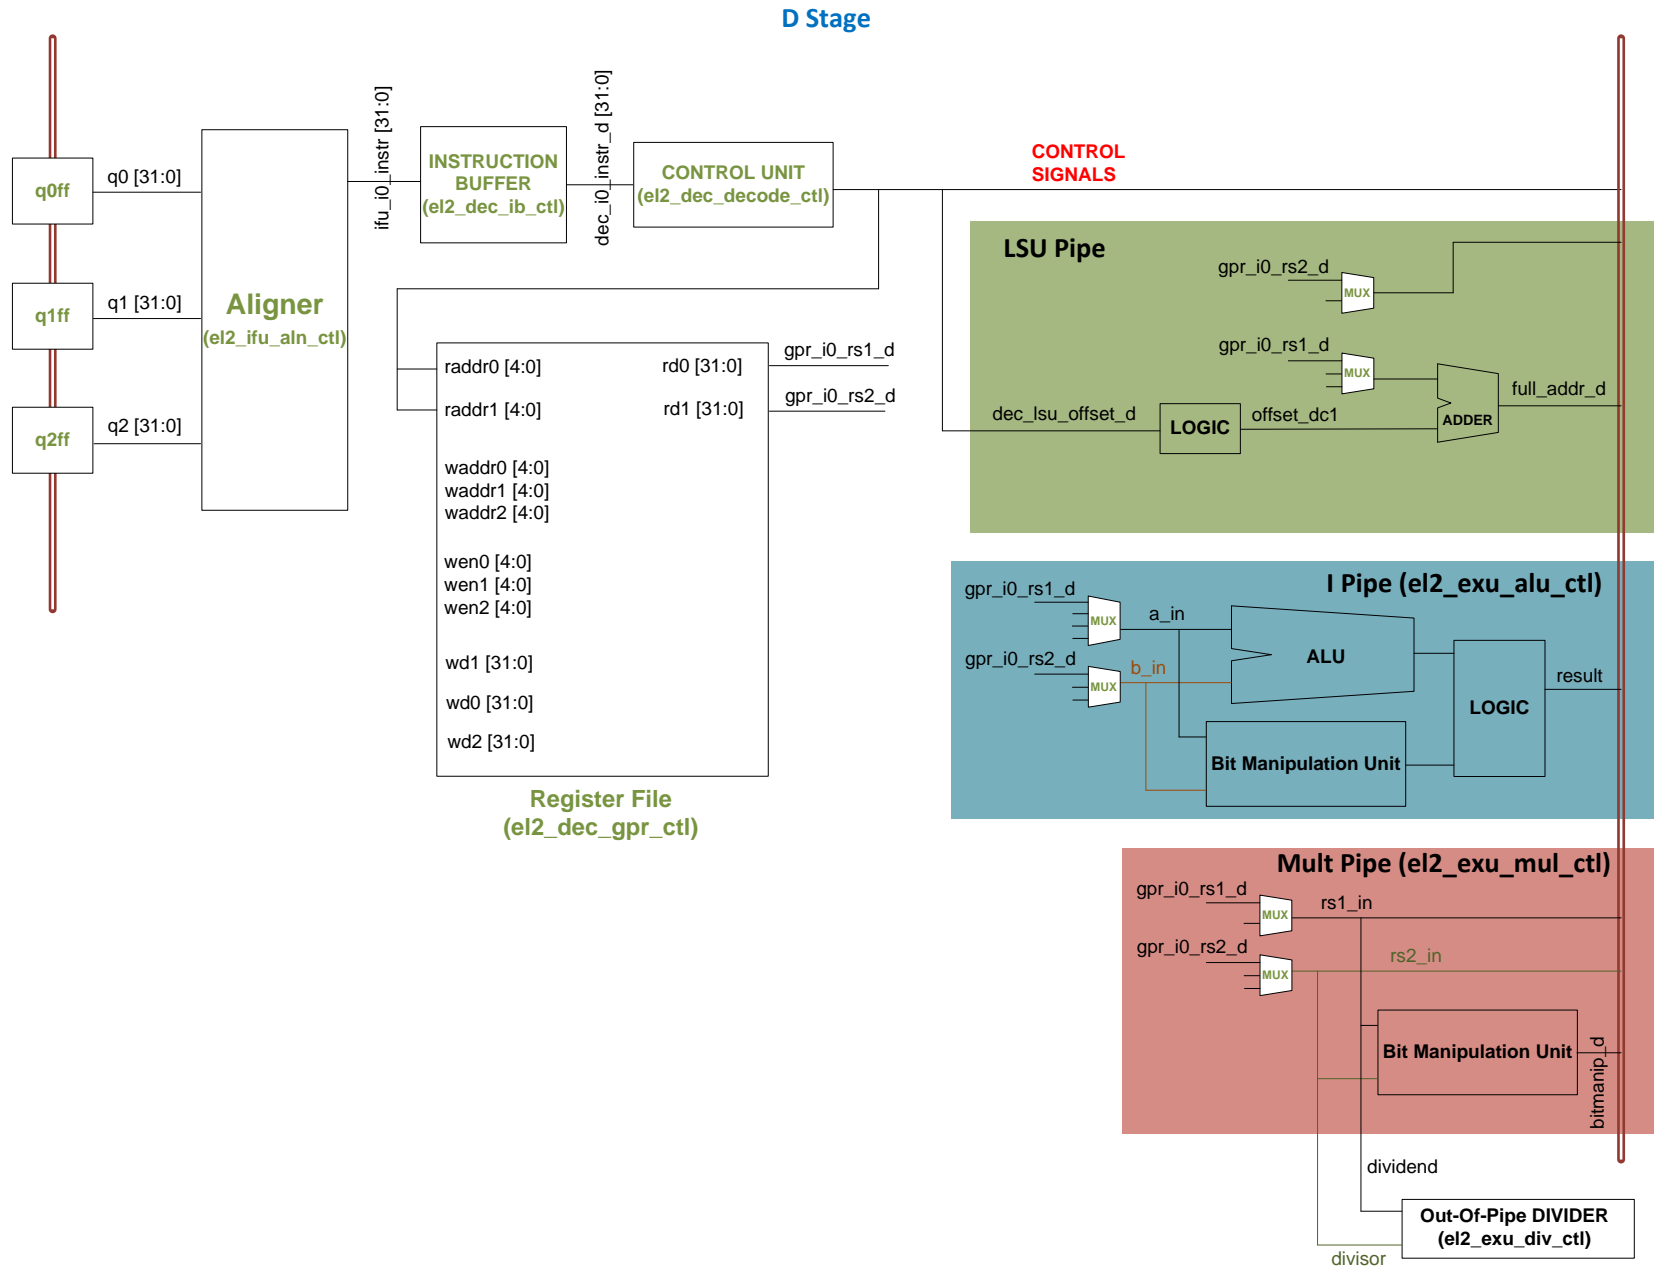

Figure 5. Simplified view of the D (Decode) Stage
In this section we analyse the D (Decode) Stage of the VeeR EL2 pipeline. Figure 5 illustrates a simplified view of this stage, which we will extend in future labs.
The Control Unit propagates these control signals to later pipeline stages using pipeline registers, which are placed between each pipeline stage (see Figure 5).
As shown in Figure 5, VeeR EL2 includes an Integer pipe (I), one Multiply pipe, and one Load/Store pipe (L/S). In addition, it includes a Divider which is outside the pipeline. Once the instruction is decoded, the processor sends it to one of four separate pipelines:
In addition to scheduling the instructions, the pipes must be provided with the corresponding operands. For that purpose, several 2:1, 3:1, and 4:1 multiplexers (see Figure 5) select among the possible operands and propagate them to the next stages using pipeline registers. These multiplexers are implemented in lines 232-265 of module **exu**. (Even though the multiplexers are inside the **exu** module, they operate in the D Stage). Their input operands can come from several places:
- **Bypass Logic:** Most data dependencies are resolved in the D Stage by means of bypassing, as we will analyse in Lab 14. The inputs coming from the Bypass Logic are not labelled in the 2:1, 3:1, and 4:1 multiplexers from Figure 5 for the sake of simplicity.
- **Immediate:** Some RISC-V instructions use Immediate Addressing Mode, in which the operand is provided directly from the instruction bits. The inputs coming from the Immediate are not shown in the 2:1, 3:1, and 4:1 multiplexers from Figure 5.
- **Register File:** The Register File available in the VeeR EL2 processor has 2 read ports and 3 write ports. The inputs coming from the Register File are shown in the 2:1, 3:1, and 4:1 multiplexers from Figure 5 using only the names of the signals. The connections to the Register File are not shown for the sake of simplicity.
Each read/write port has a 5-bit address (*raddr0 ...*, *waddr0 ...*), as well as a 1-bit enable signal for the write ports (*wen0 ...*), not shown in Figure 5. Write ports also have a 32-bit write data input (*wd0 ...*), and read ports have a 32-bit read data output (*rd0 ...*). The Register File contains 32 32-bit registers, called x0-x31, with x0 hardwired to 0.
I Pipe: The integer pipe is shown in blue in Figure 5. It includes a 1-cycle latency Arithmetic-Logic Unit (ALU) and a 1-cycle latency Bit Manipulation Unit (BMU). The ALU is capable of performing arithmetic operations such as *addition* or *subtraction*, as well as logical operations such as *and* or *or*. The BMU supports bit manipulation for Zba, Zbb, Zbc, Zbe, Zbf, Zbp, Zbr, Zbs extensions. In Lab 12 we will analyse the I pipe in further detail.
Multiply Pipe: The multiply pipe is shown in red in Figure 5. It includes a multiplier, that operates in the X Stage, and a second BMU, which operates in the D Stage and which performs bit manipulation instructions that are not performed in the I Pipe's BMU.
Load/Store (L/S) Pipe: The L/S pipe is shown in green in Figure 5. In Lab 13 we explore this pipeline path in depth. Both load and store instructions are executed through the L/S pipe. It includes several stages; during the D Stage, the Adder Unit calculates the address by adding the register base address and the immediate offset.
Divider: The divider is shown in white in Figure 5. It is a non-pipelined unit that requires several cycles to compute its result.